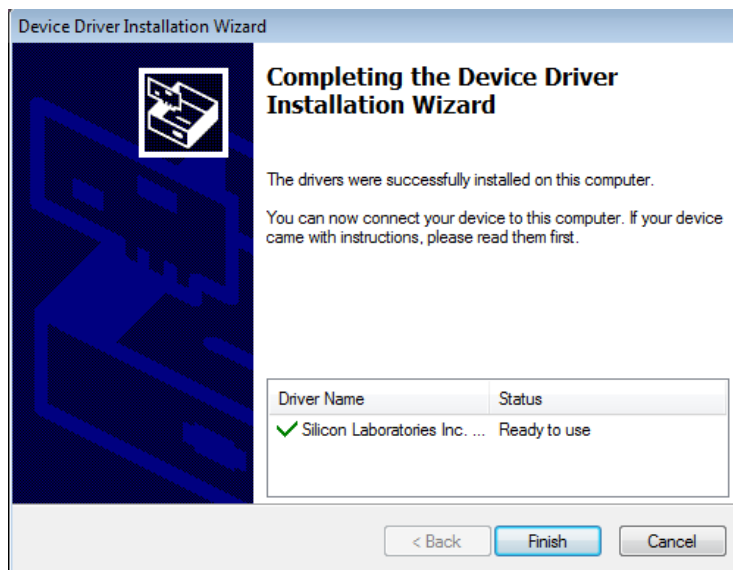

Figure 5: Driver Set-Up Success
4. Wait for the status screen to verify that the installation is complete (see Figure 5).